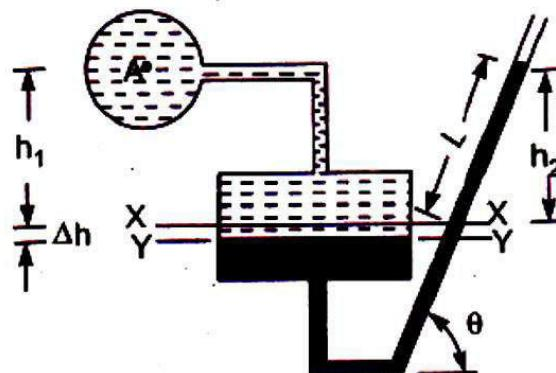

Fig. 2.8 Inclined single column manometer
- Fig. 2.8 shows the inclined single column manometer. This manometer is more sensitive. Due to inclination the distance moved by the heavy liquid in the right limb will be more.